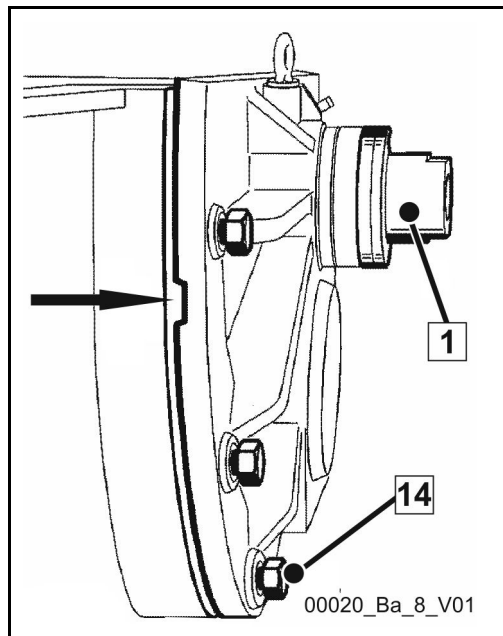

Fig. 330
- Loosen the adjusting nut (1) (**Fig. 330**) by two to three turns.
- Loosen the cover screws (14) evenly by approx. two to three turns to release the pressure spring in the cutting ring.
- Press off the cover of the housing using two assembly levers until it hits the loosened screws; there are press-off points (arrow) (**Fig. 330**) located on the top cover for this purpose.